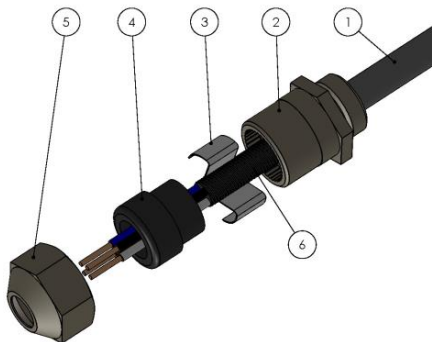

Fig.68: Spring on naked screen
7. Make sure all cables (Fig.68/1) are placed correctly and the spring (Fig./3) is in contact with the naked screen (Fig.68/6).